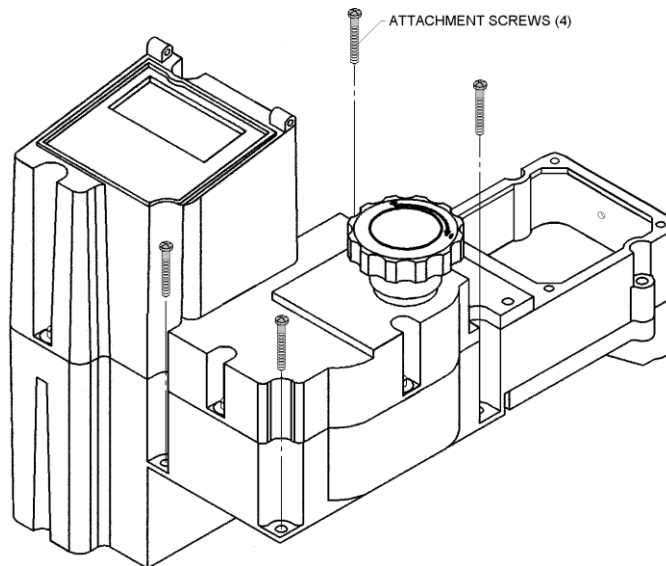

Figure 37 – DLCM Removal for Replacement
8. Remove the four screws that hold the DLCM to the PULSAR gearbox (refer to **Figure 37**).
16. Install the 4 DLCM to gearbox mounting screws (refer to **Figure 37**).